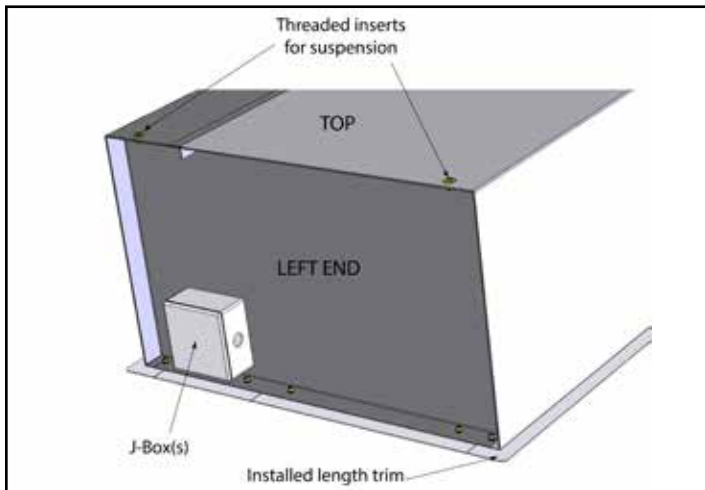

Figure 3
- A. The ARC12 series air curtain enclosure is equipped with four 5/16"-18 threaded inserts on the top of the unit for suspended mounting. **See Figure 3.**
- F. Install the front and back trim using the provided fasteners. **See Figure 3.**